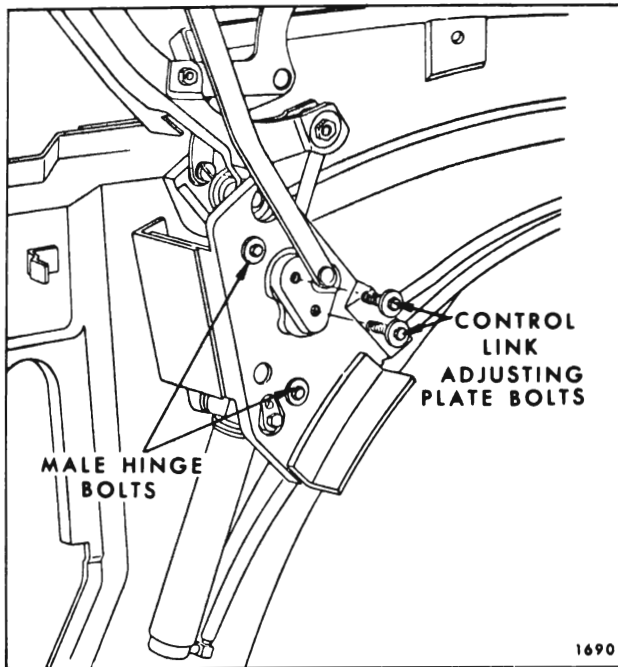
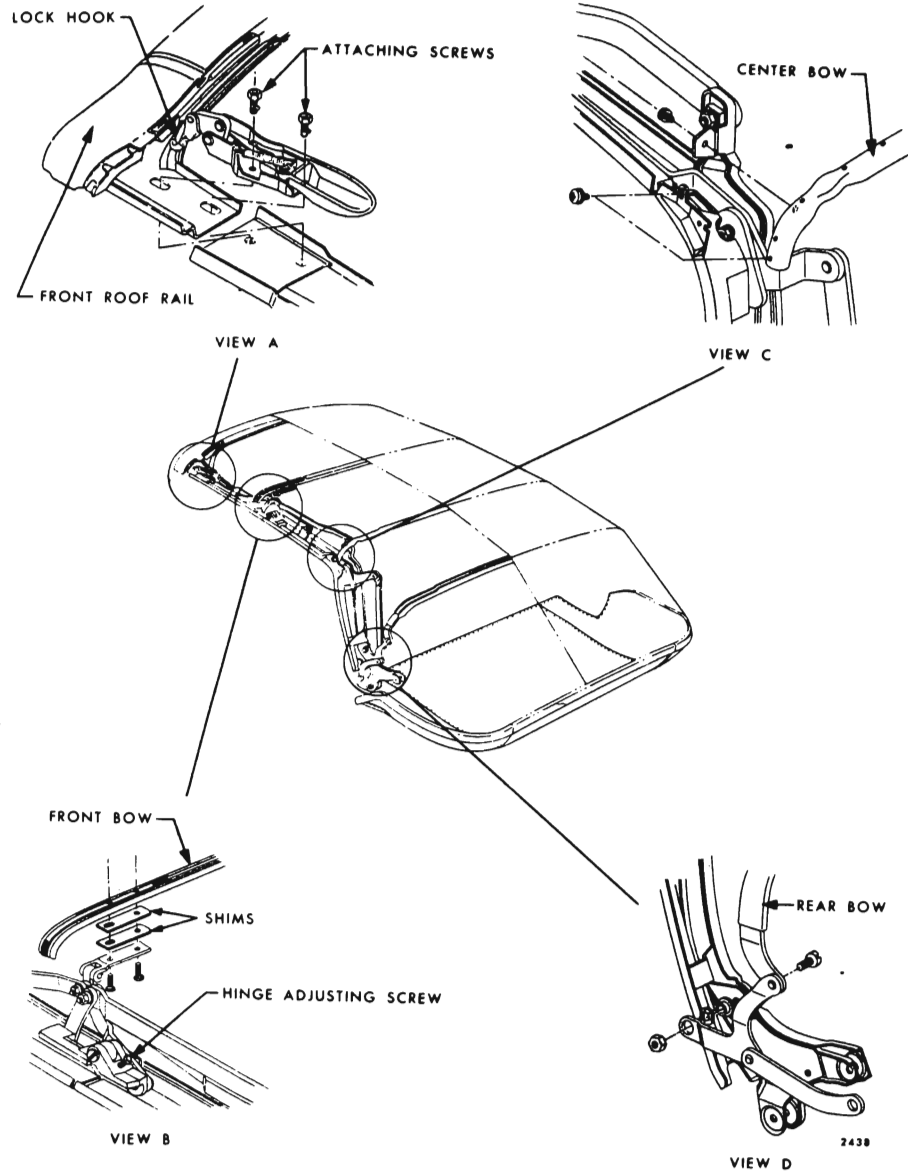

Fig. 13-81 — Male Hinge Attachment
Fig. 13-82—"B and C" Body Folding Top Adjustments
- c. Loosen two bolts securing control link adjusting plate sufficiently to permit adjustment of plate (Fig. 13-81).
- b. Loosen male hinge assembly and control link attached bolts (Fig. 13-81).
- b. Loosen male hinge assembly attaching bolts (Fig. 13-81).
| C. Top travels too far forward. | 1. Front roof rail misaligned. | Adjust front roof rail rearward (Fig. 13-82). |
| | 2. Male hinge assembly misaligned. | Adjust male hinge assembly rearward (Fig. 13-81). |
| D. Top does not travel forward far enough. | 1. Front roof rail misaligned. | Adjust front roof rail forward (Fig. 13-82). |
| | 2. Male hinge assembly misaligned. | Adjust male hinge assembly forward (Fig. 13-81). |
| E. Side roof rail rear weatherstrip too tight against rear of rear quarter window. | 1. Male hinge assembly misaligned. | Adjust male hinge assembly rearward (Fig. 13-81). |
| F. Gap between side roof rail rear weatherstrip and rear of rear quarter window. | 1. Male hinge assembly misaligned. | Adjust male hinge assembly forward (Fig. 13-81) and/or shim side roof rail rear weatherstrip forward as required. |
| G. Side roof rail rear weatherstrip too tight against top of rear quarter window. | 1. Male hinge misaligned. | Adjust male hinge upward (Fig. 13-81). |
| I. Sag at front of center side roof rail joint. | 1. Control link adjusting plate misaligned. 2. Center side roof rail hinge adjusting screw improperly adjusted. | Adjust control link adjusting plate downward (Fig. 13-81). Adjust screw counterclockwise (Fig. 13-82). |
| J. Front and center side roof rails bow upward at hinge joint. | 1. Control link adjusting plate misaligned. 2. Center side roof rail hinge adjusting screw improperly adjusted. | Adjust control link adjusting plate upward (Fig. 13-81). Adjust screw clockwise (Fig. 13-82). |
| K. Folding top dust boot is difficult to install. | 1. Improper stack height due to misaligned control link adjusting plate. 2. Misaligned folding top dust boot female fastener. 3. Rear seat back assembly is too far forward. 4. Excessive build-up of padding in side roof rail stay pads. | Adjust control link plate rearward or forward as required (Fig. 13-81). Where possible, align female with male fastener. Relocate rear seat back panel rearward until dimension between upper rear edge of rear seat back to forward edge of pinchweld finishing molding is $21\text{-}11/16'' \pm 1/16''$. The dimension is measured at approximate centerline of body. Repair side stay pads as required. |
| L. Folding top dust boot fits too loosely. | <ol style="list-style-type: none"> 1. Improper stack height due to misaligned control link adjusting plate. 2. Rear seat back assembly is too far rearward. | <p>Adjust control link plate forward (Fig. 13-81).</p> <p>Relocate rear seat back panel forward until dimension between upper rear edge of rear seat back to forward edge of pinch-weld finishing molding is $21-11/16'' \pm 1/16''$. The dimension is measured at approximate centerline of body.</p> |
| M. Top material is too low over windows or side roof rails. | <ol style="list-style-type: none"> 1. Front roof bow improperly shimmed. 2. Excessive width in top material. | <p>*Install one or two $1/8''$ shims between front roof bow and slat iron (Fig. 13-82).</p> <p>If top is too large, detach binding along affected area, trim off excessive material along side binding as required; then hand sew binding to top material.</p> |
| N. Top material is too high over windows or side roof rails. | <ol style="list-style-type: none"> 1. Front roof bow improperly shimmed. | <p>*Remove one or two $1/8''$ shims from between front roof bow and slat iron (Fig. 13-82).</p> |